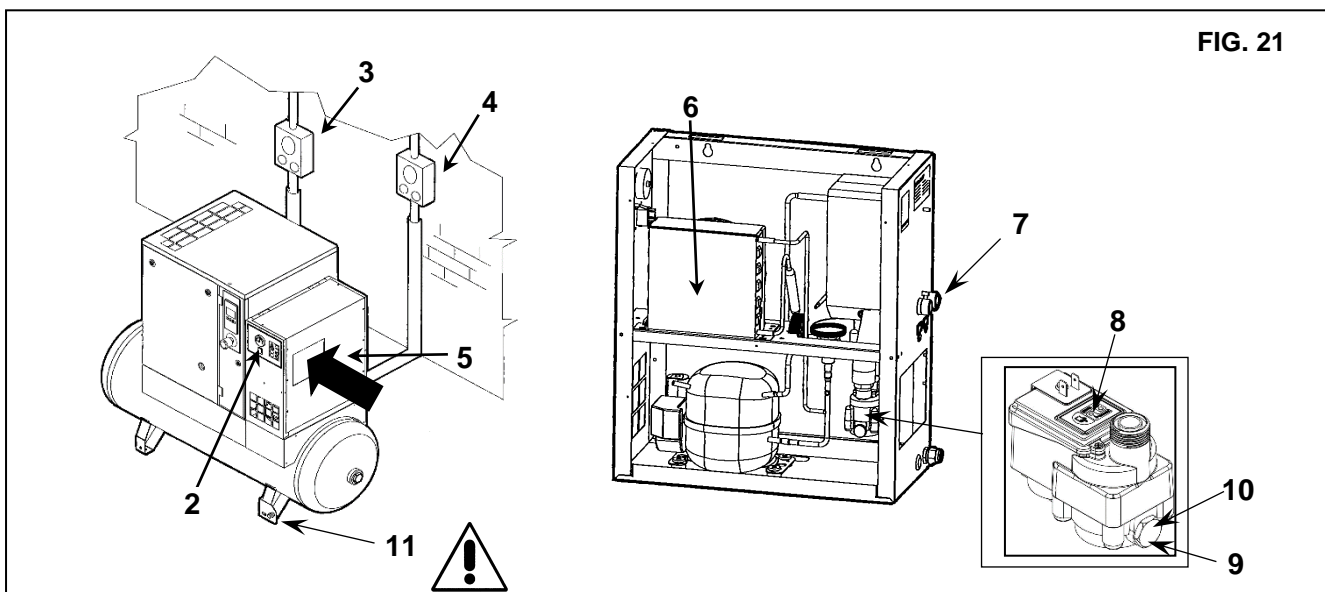

FIG. 21
15.6 CHECK THE AUTOMATIC DRAINAGE OF THE CONDENSATE (DRYER) AND MANUAL DRAINAGE (AIR TANK) (FIG.21)
The automatic and manual condensation drain (Ref. 8 and Ref. 11 Fig. 21) must be checked every day.
- Press the "TEST" button, Ref. 8 Fig. 21, for a few seconds to check if the condensation is correctly drained from the pipe
- Check manual condensation draining from the tank, to ensure that condensation is correctly released from the valve, Ref. 11 Fig. 21 (**PURGE EVERY DAY**).
15.7 CLEANING THE CONDENSER FINS (FOR DRYER) (FIG.21)
The condenser must be cleaned every month (Ref. 6 Fig. 21).
- Switch off the dryer by pressing the STOP button Ref. 2 Fig. 21
- Open (disconnect) the differential supply switch, Ref. 3 (on the screw-compressor) and Ref. 4 (on the dryer if fitted) Fig. 21.
- Remove the cover panel Ref. 5 Fig. 21
- Clean the condenser fins Ref. 6 Fig. 21 with compressed air. **DO NOT USE WATER OR SOLVENTS.**
- Close the cover panel Ref. 5 Fig. 21.
15.8 CLEAN THE FILTER OF THE AUTOMATIC DRAIN FOR DRYER (Ref. 9 - 10 Fig. 21)
- Close the air net valve Ref. 7 Fig. 21
- Open (disconnect) the differential supply switch, Ref. 3 (compressor) and Ref. 4 (dryer) Fig. 21.
- Release the pressure from the dryer and tank by opening the drainage valve Ref. 11 Fig. 21.
- Remove the plug Ref. 9 Fig. 21.
- Take out the filter trap Ref. 10 Fig. 21.
- Clean the filter Ref. 10 Fig. 21 with a jet of air, blowing from inside to outside.